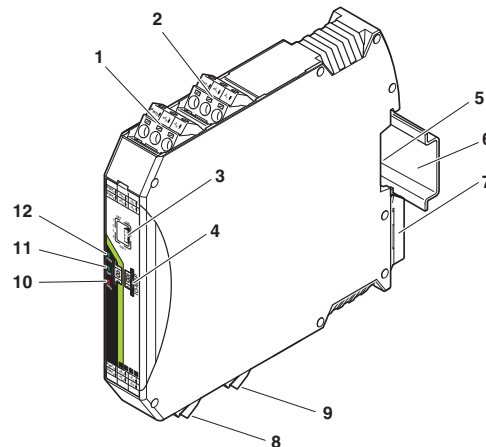

Figure 8-1 SATEL-LP-AI4 structure
A supply voltage of 12 V DC, minimum, is available at the PWR1 connection terminal block for passive sensors (see Figure 8-1, item 1).